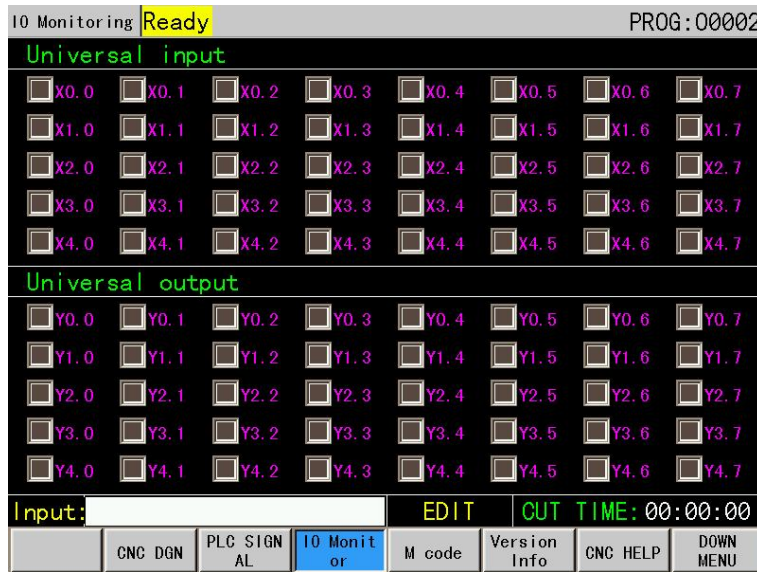

Figure 3-6-3-1
1、 Press the [IO Monitoring] soft key in the<Diagnosis>interface of the CNC diagnostic interface to enter the IO monitoring interface. As shown in Figure 3-6-3-1: